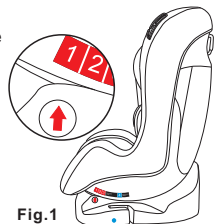

Fig.1
**Step 1.** For Group II, when positive installation the safety position of the safety seat, the biggest angle only can be adjusted to the first (see Fig.1).